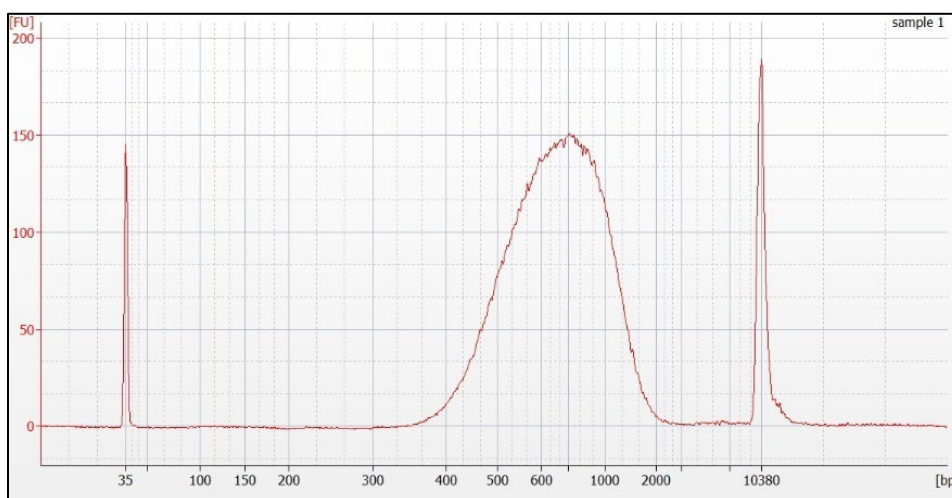

Figure 24. Example electropherogram results using the Agilent 2100 Bioanalyzer high sensitivity assay.
4. Use the Bioanalyzer results to determine library quality and average size for qPCR quantification. See Figure 24 for an example of a typical Bioanalyzer profile for a library generated by this protocol.